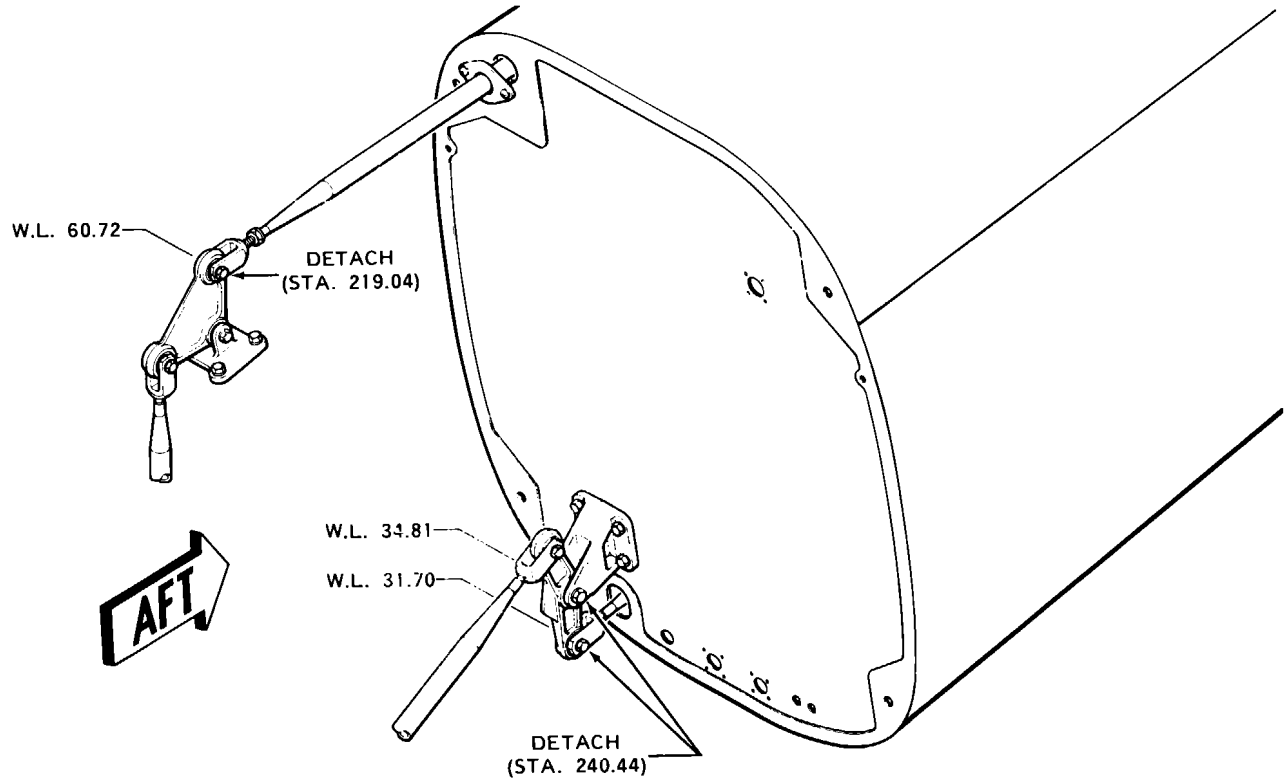

Figure 53-7. Control Disconnect Points for Tailboom Removal
53.5.4.5 Connect tail rotor and synchronized elevator control tubes (Figure 53-7 and Chapter 67).